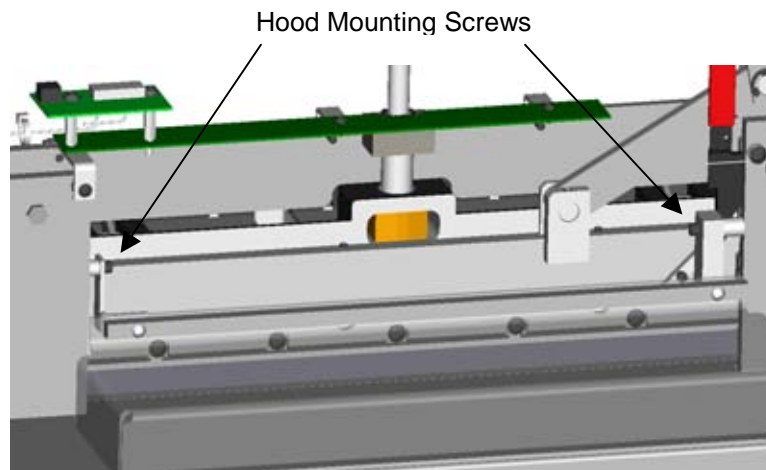

Figure 18
2. Raise the hood. The hood should remain in the UP position when released. If it does not, tighten the screws that mount the hood to the machine base (Figure 18).